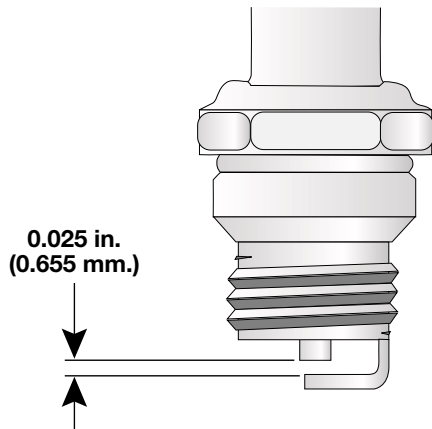

Fig. 55
3. Replace cracked, fouled or dirty spark plug. Set the air gap at 0.025 in. (0.655 mm) using a feeler gauge (Fig. 55).